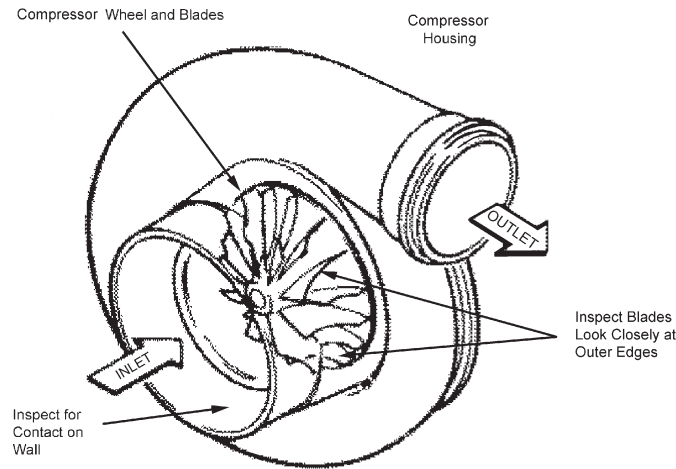

Figure 2 - Turbocharger Inspection Points
3. Visually inspect each turbocharger through the compressor inlet for any signs of contact. Look for witness marks from the impeller wheel, giving careful attention to the outer edges of the wheel blades and the inner wall of the compressor housing. Contact marks on the housing from the wheel will appear as a burnishing on the inner wall. Grooves or gouges of any sort are cause for turbocharger replacement. Utilize supplemental lighting if needed to facilitate visual inspection. Refer to Figure 2, page 3.